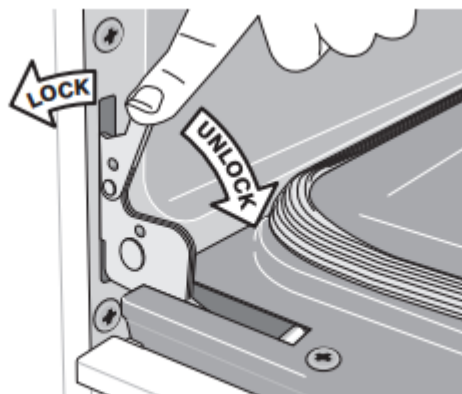

Figure 21: Door hinge locks
2. Pull the door hinge locks on both left and right door hinges down from the oven frame completely towards the oven door (See Figure 21). A tool such as a small flat-blade screwdriver may be required.
3. Push the door hinge locks up towards and into the oven frame on both left and right oven door hinges to the locked position (See Figure 21).